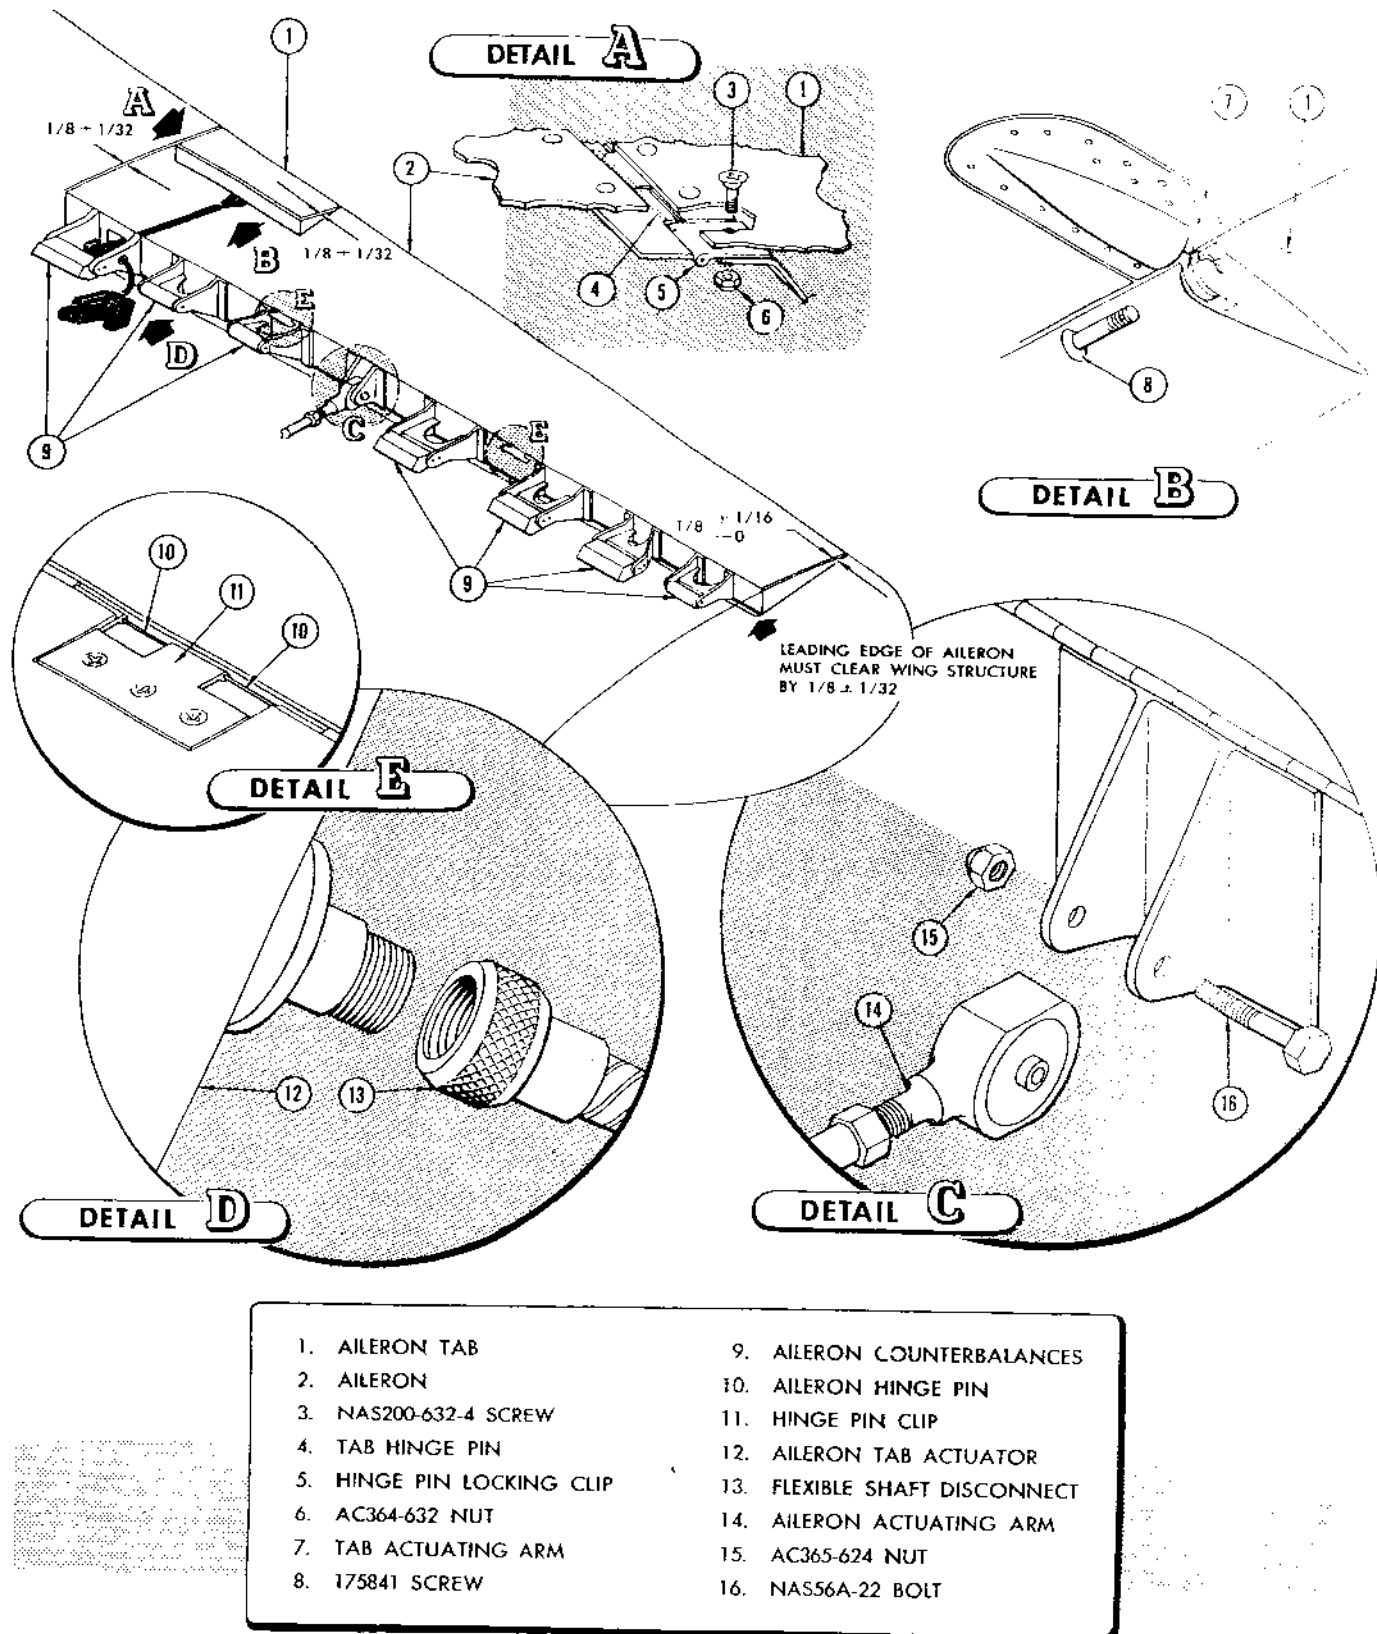

Figure 38 — Aileron and Tab Installation
e. AILERONS. (See figure 38.)
(1) DESCRIPTION.—The two ailerons, one located at each end of the wing between the flap and wing tip, are mounted on full-length continuous hinges. Three stainless steel hinge pins attach each aileron to the wing structure. Each aileron is balanced by seven lead weights attached to brackets at the forward edge of the aileron. A cut-out for the electric trim tab is provided at the inboard end of the left aileron only. A bend tab is located on the inboard end of the right aileron. The tab extends one inch beyond the trailing edge of the aileron.
(2) REMOVAL. — Special tools required: Slide hammer No. S-10404 and hinge-pin puller No. S-34802.